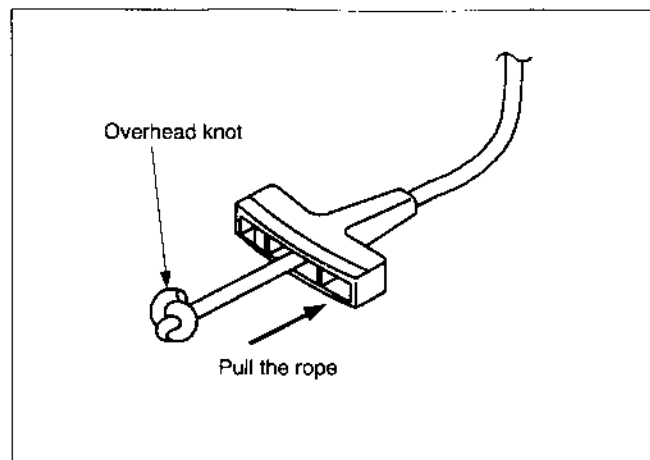
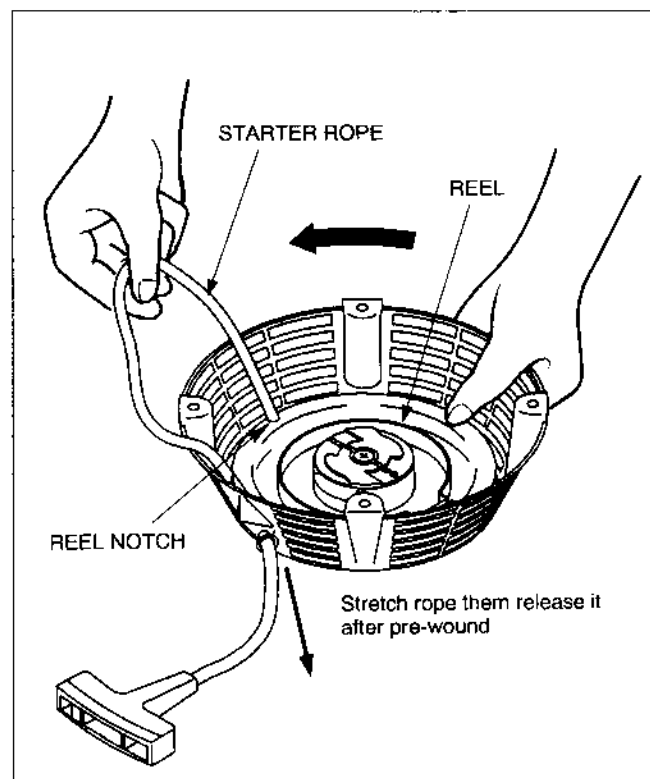

Fig. 74
Fig. 75
- (4) Pass the starter rope through the starter knob and tie the rope end to make a tight overhand knot as shown in Fig. 74. Then put the knot into the knob.
- (5) Pass the other end of the rope from the starter case to the reel and make a knot as illustrated above, then put the rope end securely into the rope housing in the reel.
- (6) Wind the starter rope by 1.5 turns in the arrow direction as shown in Fig. 75 to let the rope out of the reel through the notch, then install the reel securely in the starter case so that the hook catches inner end of the spring.